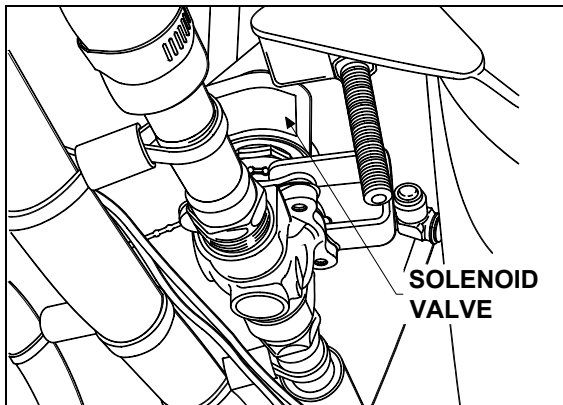

FIGURE 30: CEILING OF THE SPARE WHEEL COMPARTMENT
2. Locate the normally open water solenoid valve on the ceiling of the spare wheel compartment (Fig. 30), disconnect its wiring connector, then connect a 24-volt external power source, using jumper cables, to close valve.